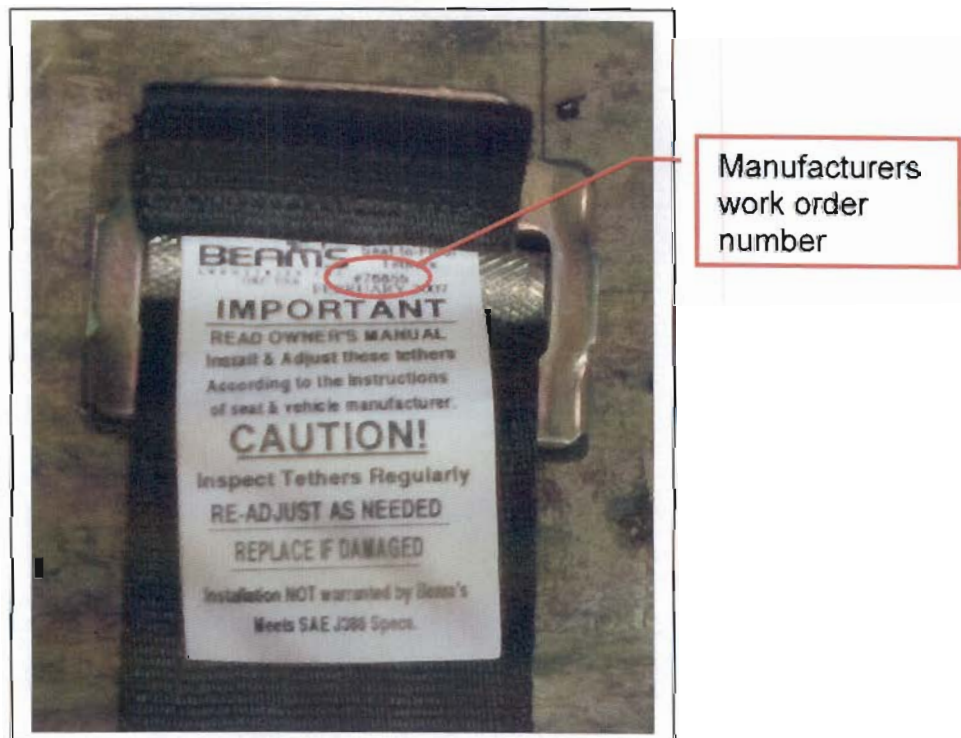

Figure 2
3. Locate the manufacturer's work order number on the identification tag. See figure 2. If the number is 79361, then contact Kalmar Customer Service for replacement parts kit part number 53575634 and continue to steps 4 thru 7. If the number is **NOT** 79361, then replacement is not necessary.